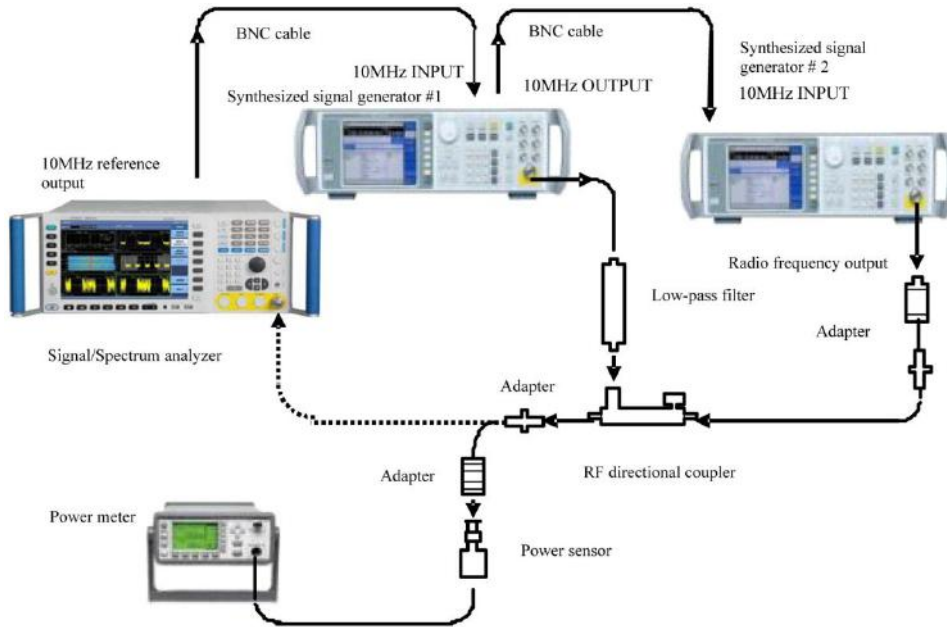
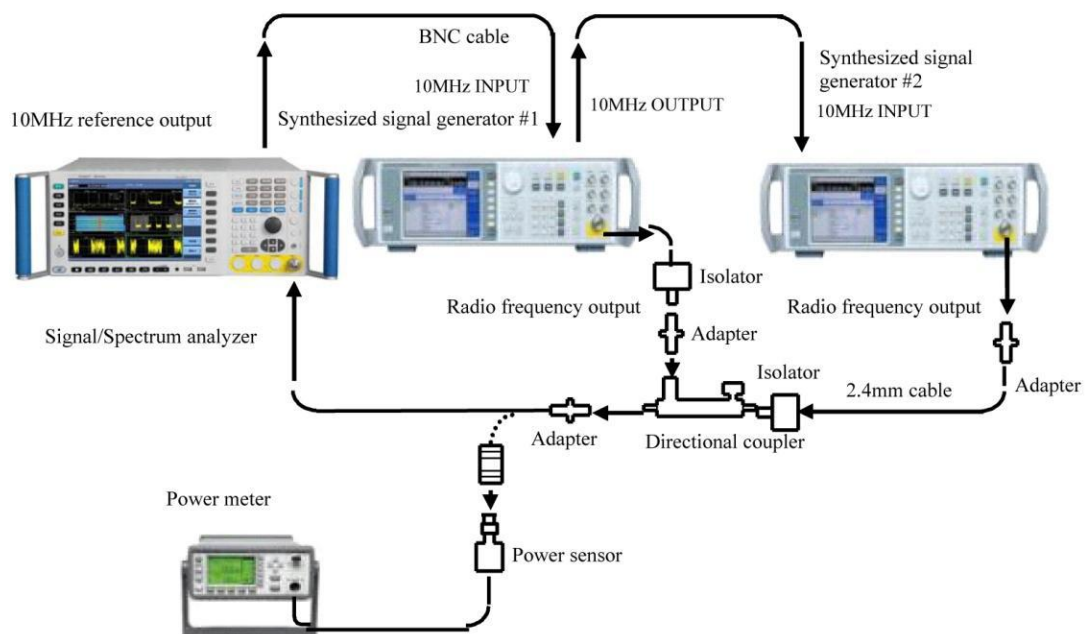

Fig. 8.16 Schematic diagram of TOI distortion test (10 MHz ~ 4 GHz)
Fig. 8.17 Schematic diagram of TOI distortion test (4GHz ~ 50GHz)
- 2) Connect the instrument according to solid lines in Fig. 8.16.
- 19) Connect the instrument as shown in Fig. 8.17 and use the MMW directional coupler to replace the RF directional coupler in Fig. 8.16.